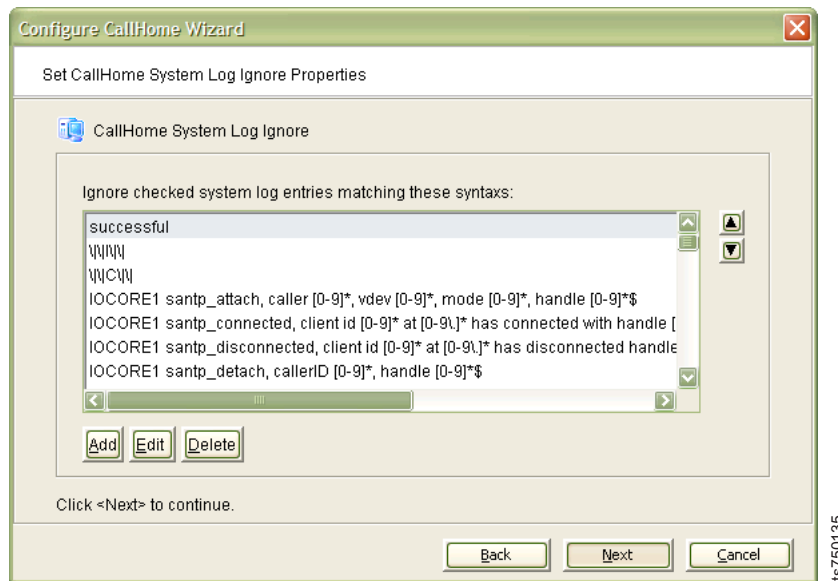

Figure 125. Set CallHome System Log Ignore Properties window
7. In the Set CallHome System Log Ignore Properties window (Figure 125):